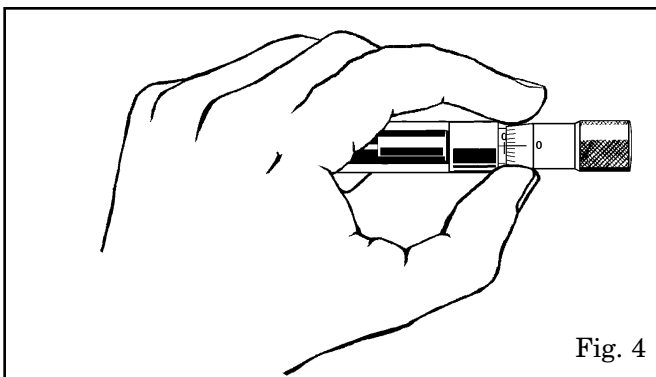

Fig. 4
4. Make zero line on thimble coincide with zero line on the barrel. See Fig. 4.